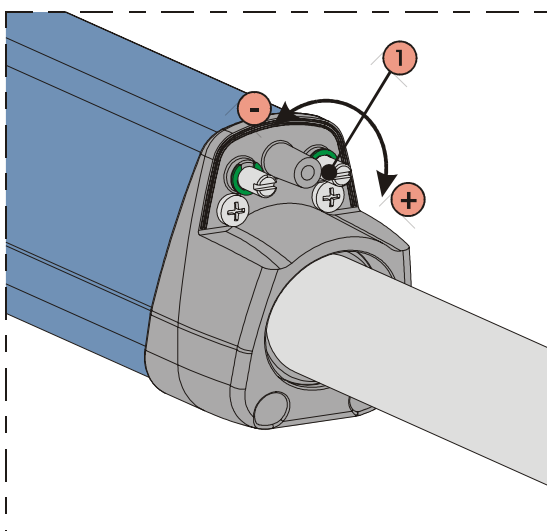

Fig. 20
- 2) To adjust the **closing limit switch FCC** turn the adjusting screw clockwise, Fig.20 ref.1, to increase the rod stroke and counter-clockwise to reduce it.